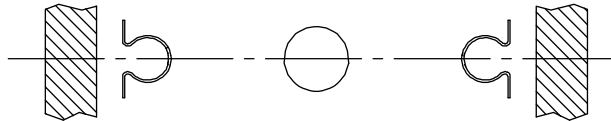

Figure 21 - Rail and Jack Centerline
1. Compare the center line of the rails and the jack hole to hoistway layout. See Figure 21.